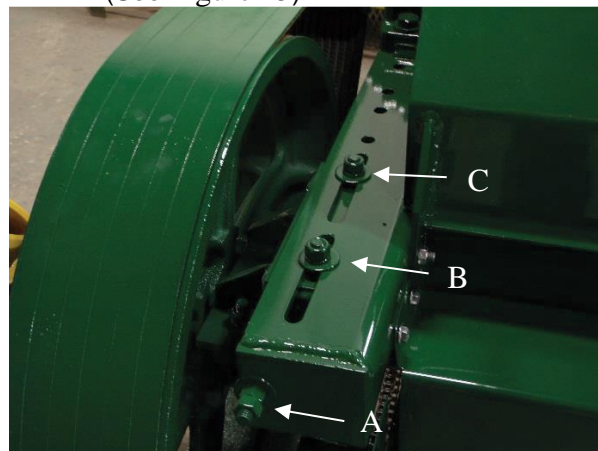
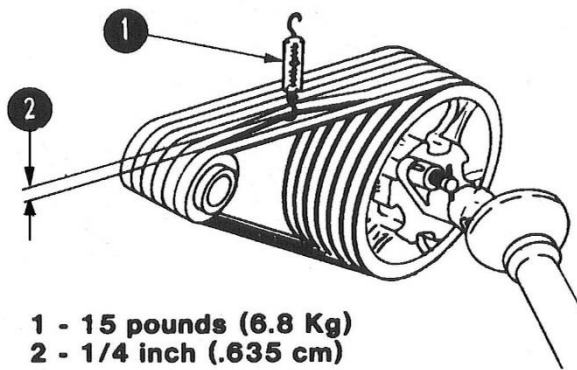

Figure 43 - Belt Tension Adjustment (Shields Removed for Clarity).
Figure 45 - Checking Belt Tension
- Loosen bolts "B" and "C". (See Figure 43)
- Adjust bolt "A" (See Figure 43) until 15 pounds of pull on the scale raises the top of one double v-belt approximately 1/4 inch above the top of the remaining belts. (See Figure 45)